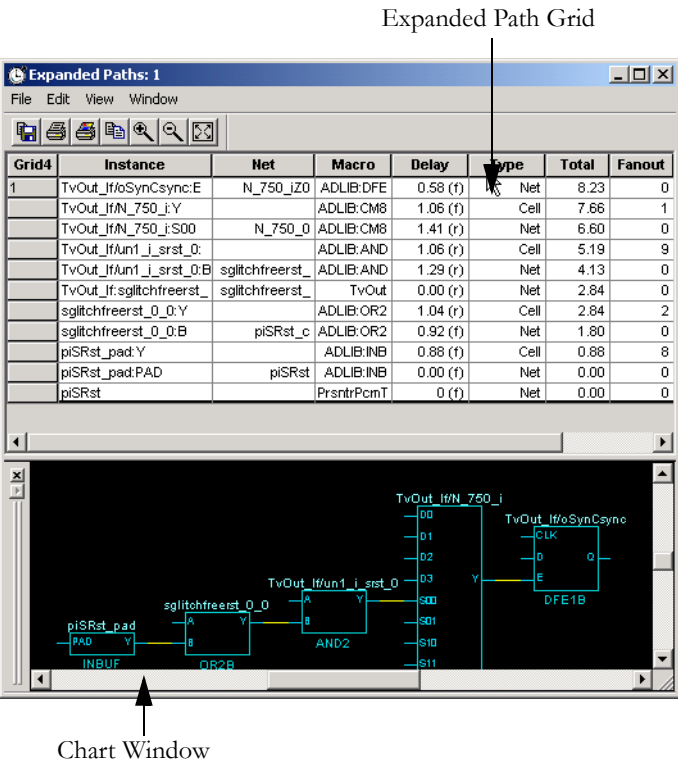

Figure 2-14. Expanded Paths
6. Expand the path by double-clicking on the path, or in the Edit menu, click *Expand Path*. the Expanded Paths window opens, as shown in Figure 2-14.